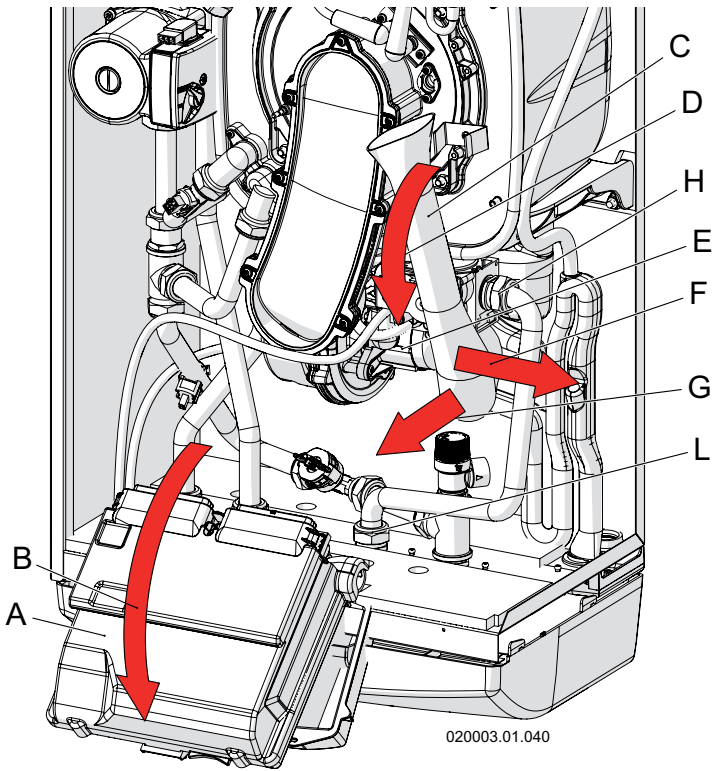

Figure 6-3 - Removing the air manifold
- 13 - remove the air manifold making sure to turn it externally and then slide it out of the fan inlet (see figure 6-3, detail "C");
- 15 - remove the gas inlet pipe via the two fittings (see figure 6-3, details "H" and "L");
20. - remount the gas supply pipe via the two fittings (see figure 6-3, details "H" and "L");
21. - remount the air manifold (see figure 6-3, detail "C");